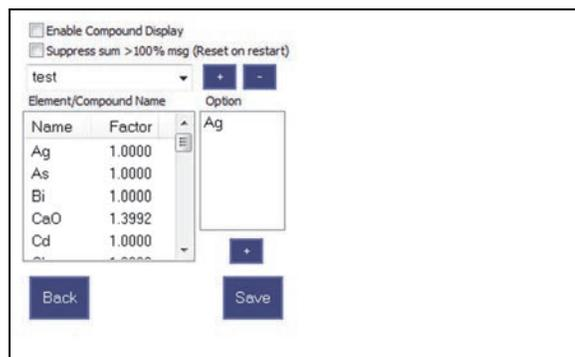

Figure 1-48 The Compound pane
1. In the **Custom Display** pane, click the **Compound** button to display the Compound pane (see Figure 1-48 on page 38).